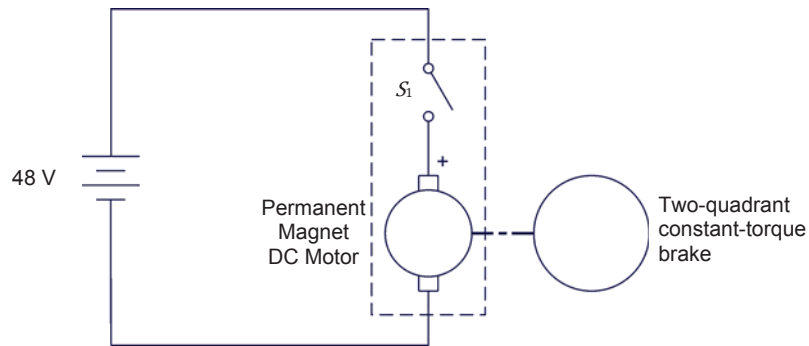

Figure 10. Permanent magnet dc motor coupled to a brake.
5. Connect the equipment as shown in Figure 10. The red motor terminal is the positive terminal.